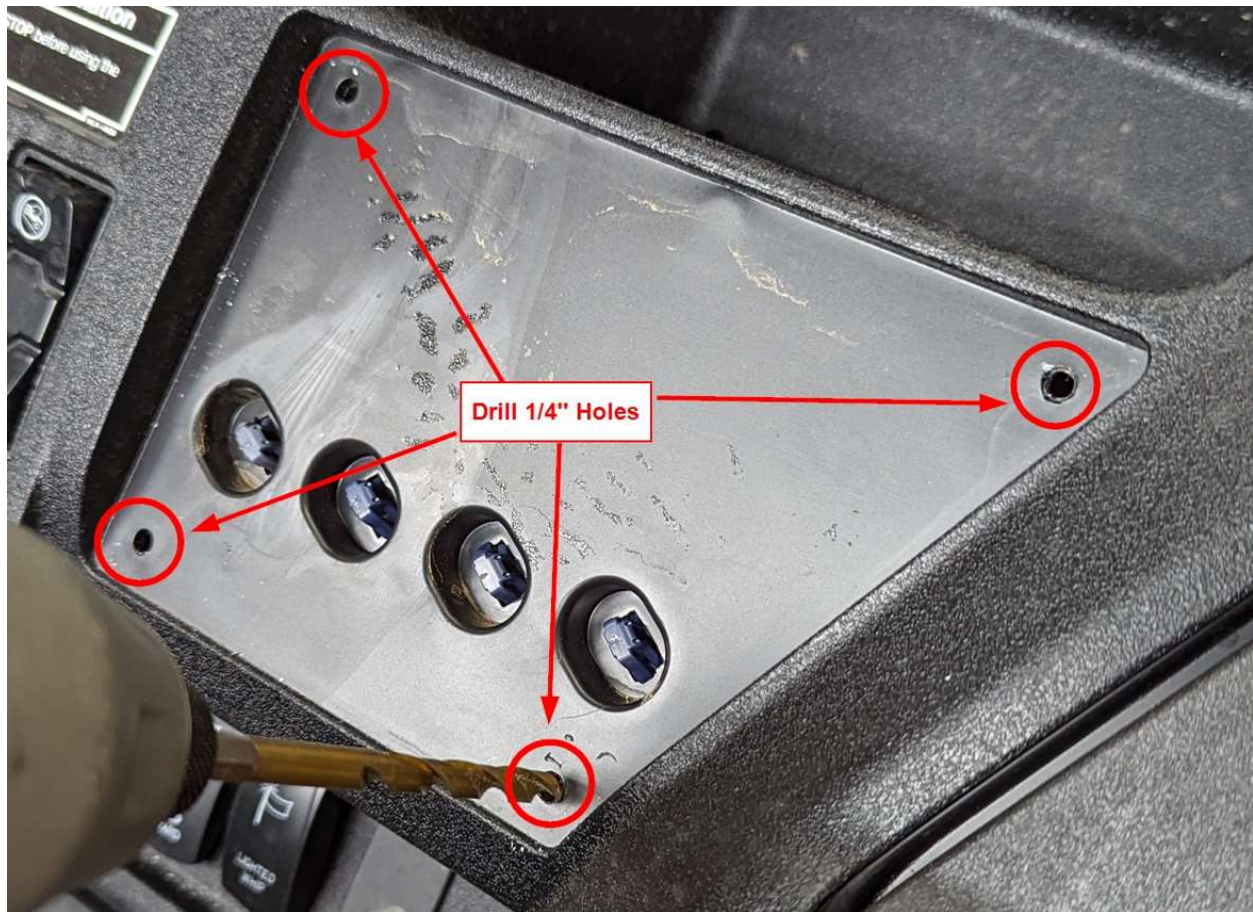

Figure 7
- a. Use a drill bit to remove the pop rivets that secure the center dash warning panel in place as shown in Figure 6. Remove the warning label. Drill the pop rivet holes with a 1/4" drill bit as shown in Figure 7.